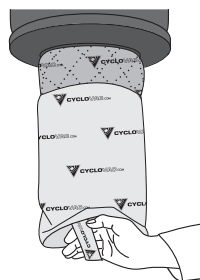

figure 14
2. Then use the straps at the base of the filters to withdraw them (**figure 14**) We recommend that you clean the anti-clogging filter (thin fabric) every time you empty the dust receptacle. You may either shake it out, or wash it. The Cyclofiltre (thick fabric) should be cleaned after four anticlogging filter cleanings, or approximately once a year.